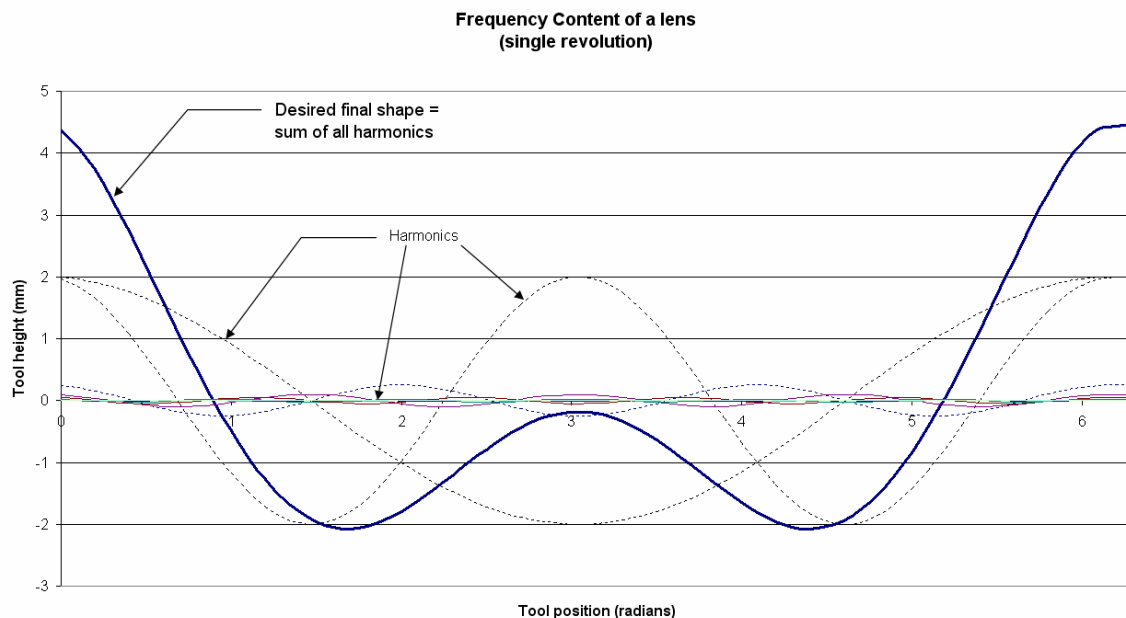

Figure 2
**Frequency Content:** One way of understanding a lens surface is to look at the “frequency content” of the lens. To simplify things further one needs to look at the frequency content of one revolution of the lens at a given radius. For a progressive, or even a toric lens this circular path will have a changing height dependent on the angular position of the tool relative to the lens. This can be seen in Figure 2 below.